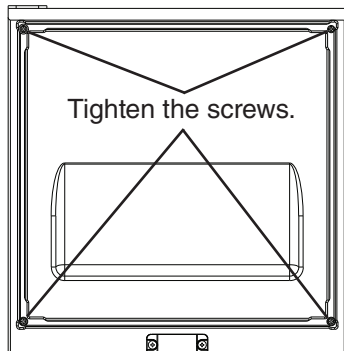

**Fig. 24**
- 5) Fasten the overlay panel to the door using the four M4x25 pan head screws provided. **Snug the screws, but do not tighten.** See Fig. 24.